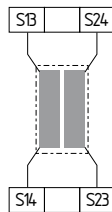

Fig. 7
**Safety mat to DIN EN 1760-1 (see Fig. 7)**